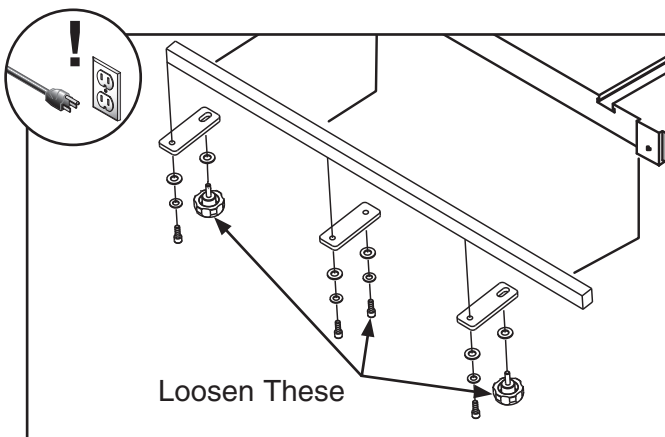

Figure 60. Loosen these knobs and cap screw.
4. Loosen the end knobs and the center cap screw that secure the front rail to the table (see **Figure 60**).